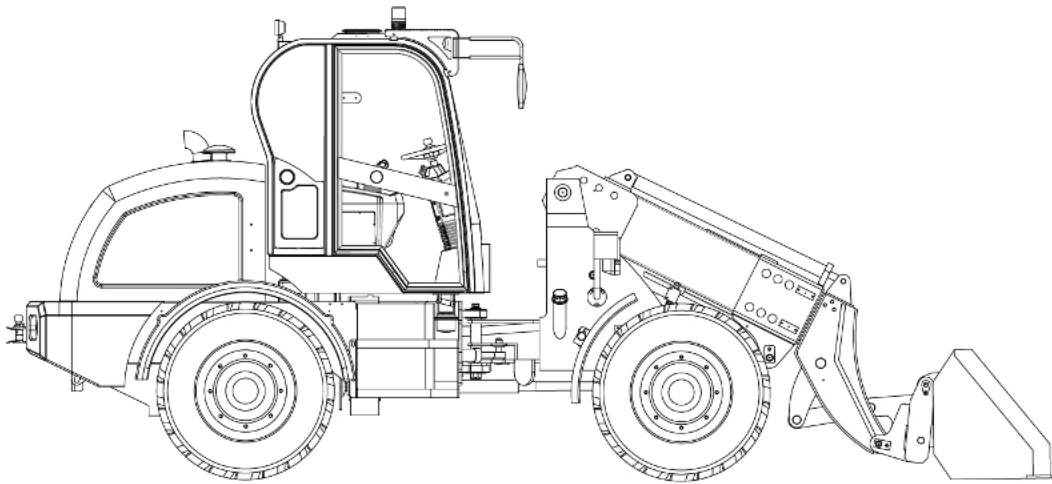

Figure 6-24 Parking status
(3) Plate (4) Oil filler port
Step 1: Park loader on a flat field, place control handle in neutral position, stop and pull up parking brake handle, put the blocks before and after the tires, as shown in Figure 6-24;